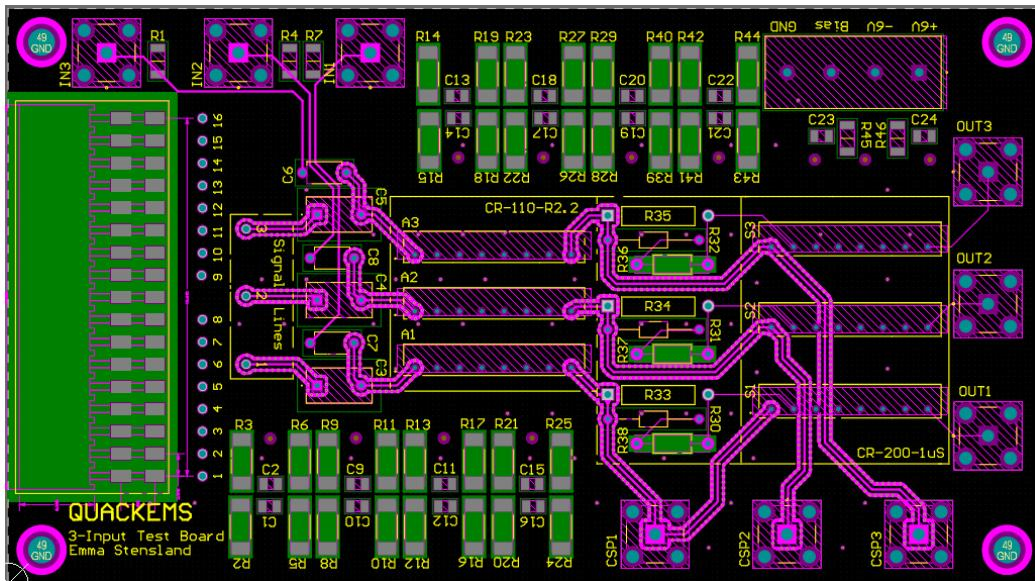

Figure 12: Layer 2 of 3-Input Test Board
2. Electrically Shielded I/O Signals of Preamp (Fig. 12)